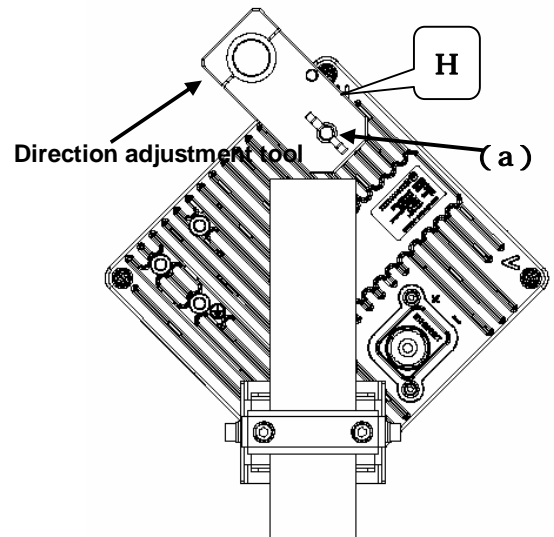

Figure 5-38 How to Install Direction Adjustment tool when the antenna type is the vertical polarization
- Step1 As shown in Figure and Figure5-38, use the wing bolt (a) to attach the Antenna direction adjustment tool.